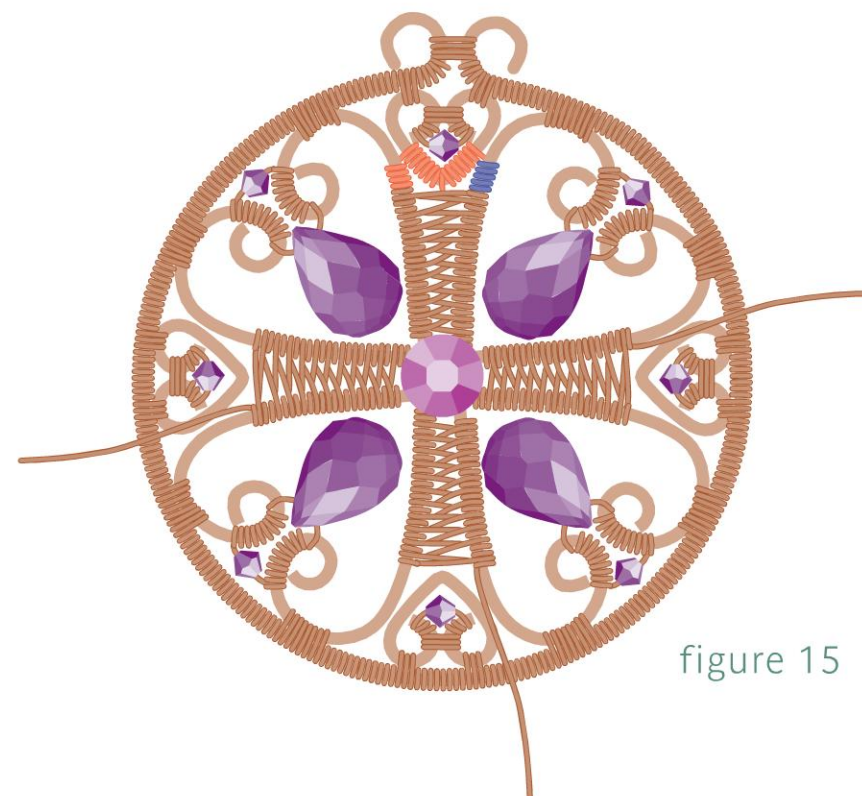

figure 15
- 37** Coil three to four times along the side of the opposing large heart frame, back to the weave (Figure 15). Cut the wire tail.